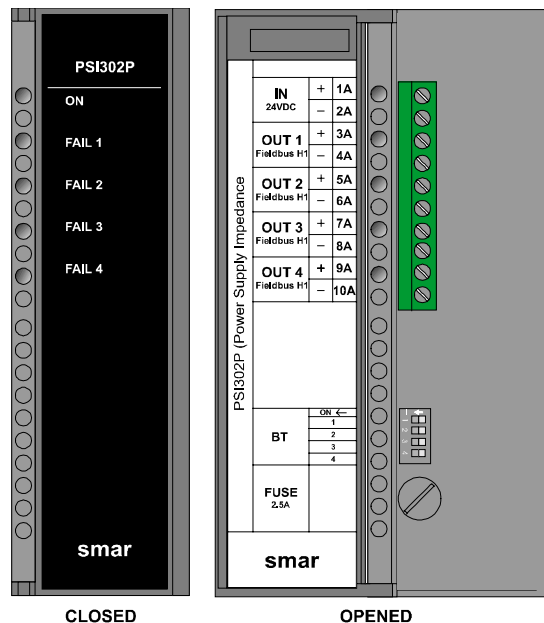

Fig 4 – Front View PSI302P-4
**PSI302P-4:** Eight terminals (3A to 10A) to implementation of 4 independent Fieldbus channels and a Dip Switch with 4 switches for interlinked of the internal terminator of the **PSI302P-4**. The Figure 4 shows a layout of device; to verify that 4 Leds of flaw exists, one for each **PSI302P**.
**PSI302P-4:** Eight terminals (3A to 10A) to implementation of 4 independent Fieldbus channels and a Dip Switch with 4 switches for interlinked of the internal terminator of the **PSI302P-4**. The *Figure 4* shows a layout of device; to verify that 4 Leds of flaw exists, one for each **PSI302P**.